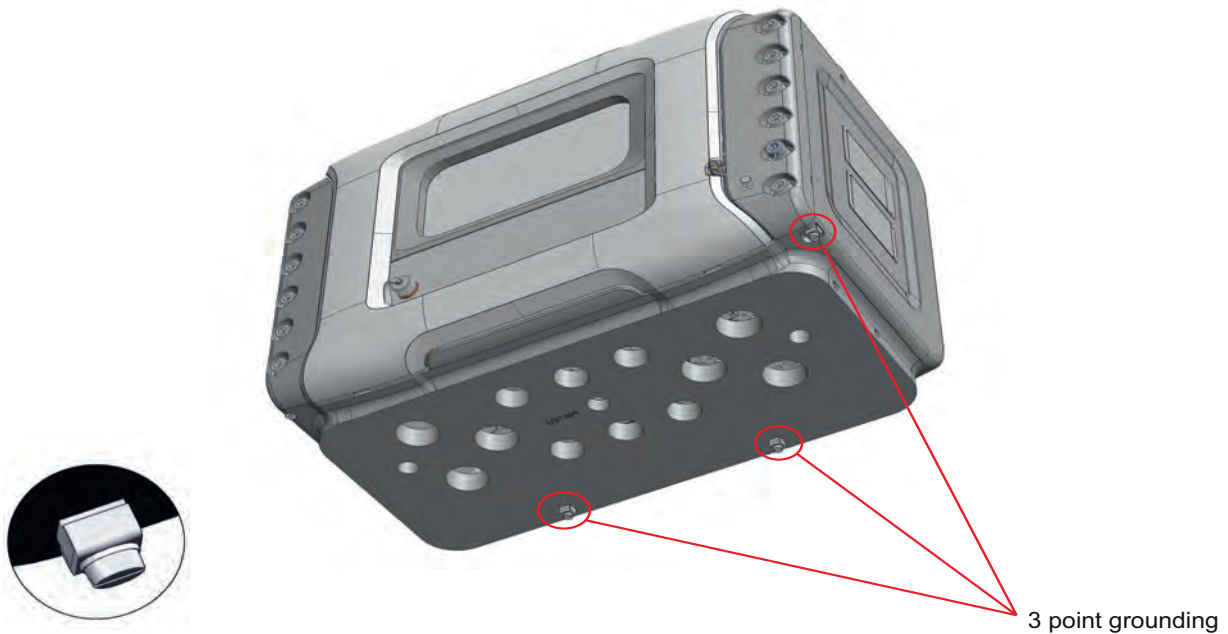

FIGURE 2-1
WARNING! Make sure that the housing of the MSC-A is properly bounded to the Protective Earth (PE). See FIGURE 2-1 for external grounding of the MSC-A and FIGURE 2-2 for bonding any AC mains wire.